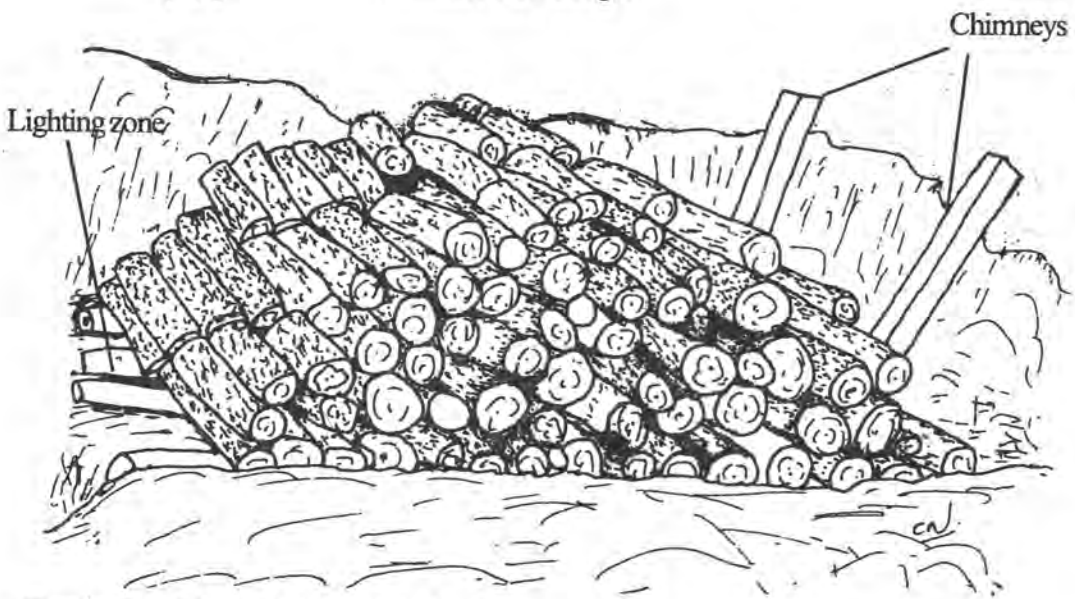

Figure 2.3: The wood is stacked closely
3. Stack the fuelwood as tightly as possible in a horizontal position (Figure 2.3) and fill all gaps between the wood with smaller fuelwood pieces to allow for better heat transfer. At the lighting zone, (which is on the side opposite the chimneys) place small branches and twigs.